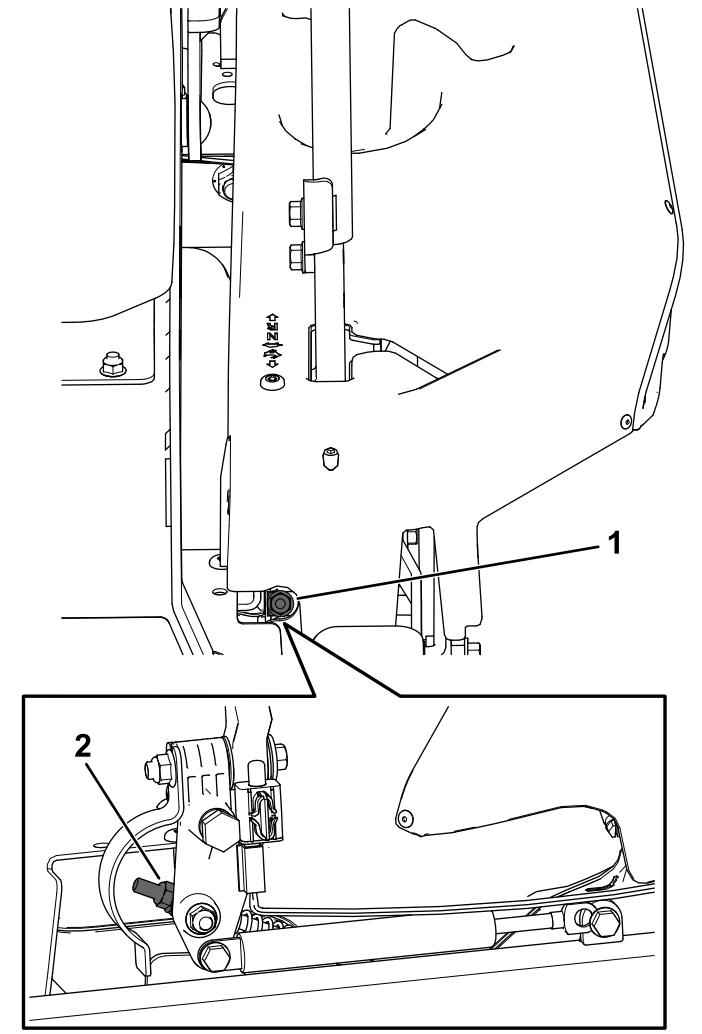

Figure 72
10. Adjust the pump-control-rod lengths by rotating the nut in the appropriate direction until the wheels slightly creep in reverse (Figure 72).